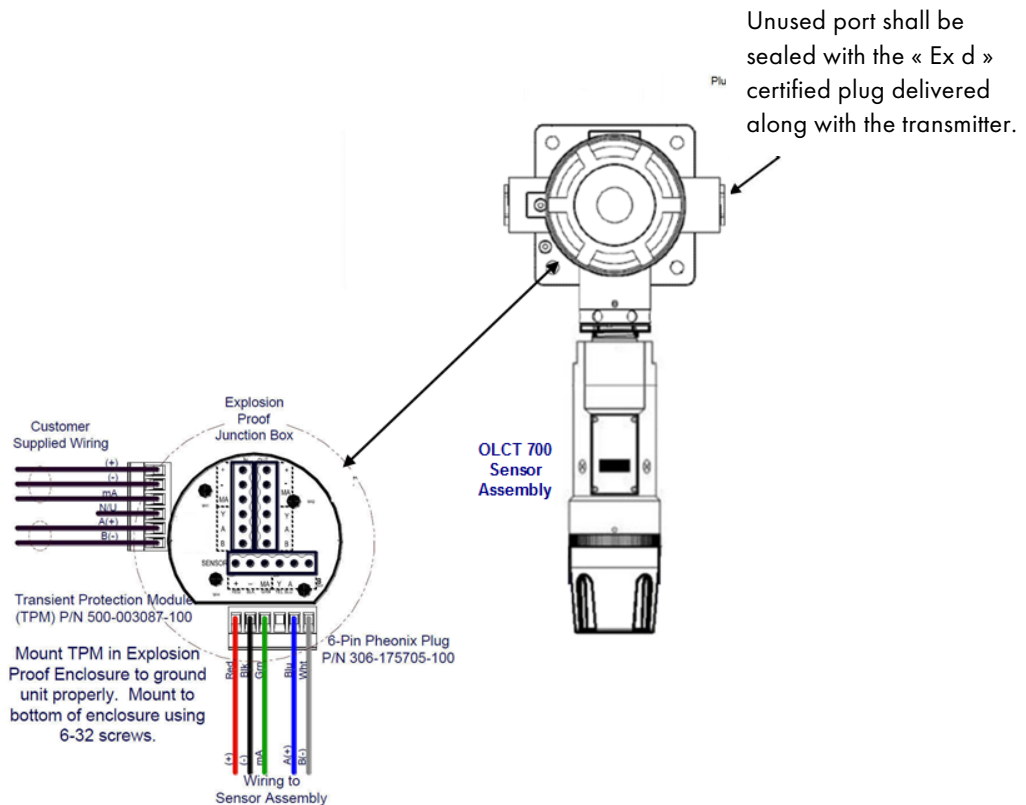
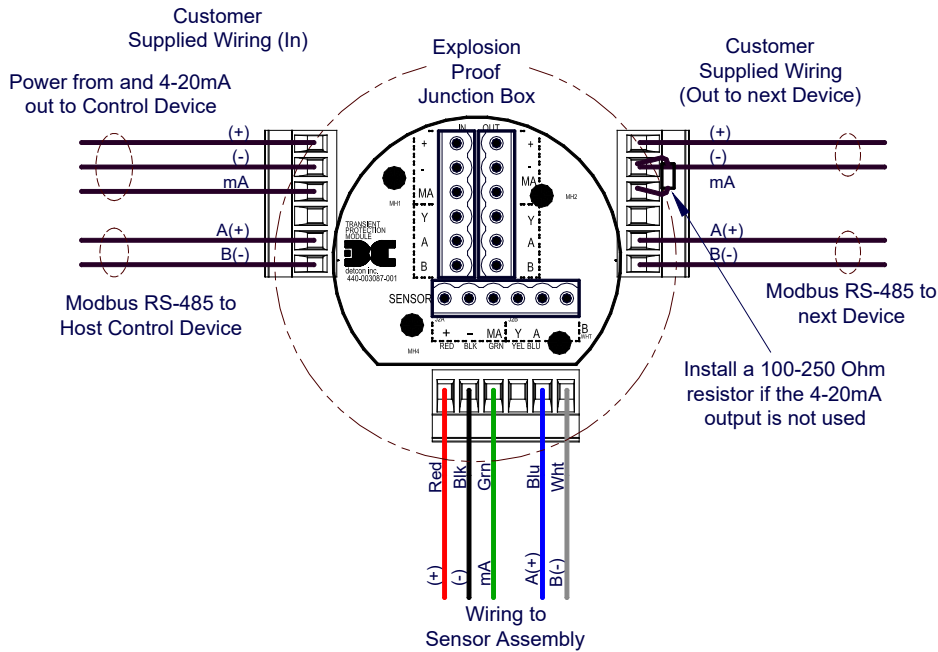

Figure 7: Typical Installation
Figure 8: Detector Wire Connections
NOTE: In all installations the gas detector should point straight down (refer to Figure 7). Improper detector orientation may result in false readings and permanent detector damage.
Proper electrical installation of the gas detector is critical for conformance to Electrical Codes and to avoid damage due to water leakage. Refer to Figure 7 and Figure 8 for proper electrical installation.
a) Remove the junction box cover. Identify the terminal blocks for customer wire connections (see Figure 8).
- b) Observing correct polarity, terminate the 3-conductor 4-20mA field wiring (+, -, and mA) to the detector assembly wiring in accordance with the detail shown in Figure 8.